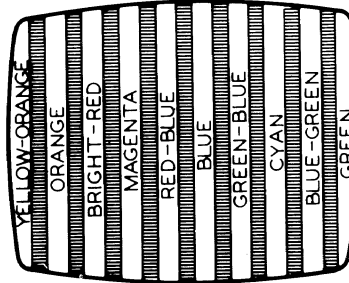

Figure 4
- () Change the program switches to "0001." The picture tube should display up to ten vertical color bars that may or may not have a color hue. Turn COLOR ADJUST trimmer C9 so the color bars are as indicated in Figure 4 on Page 43. (You may only see eight or nine color bars.) It may be necessary to readjust the television fine tuning, color level, or color killer to obtain color.
Program slide switches — These four switches are used to select the output signal. When a switch slide is moved toward the large trim label, it is in the "1" position. When the switch slide is moved toward the small Heathkit label, it is in the "0" position. The trim label illustrates the various signals that can be displayed on a television. Next to each illustration is the required switch program. **NOTE:** The illustrations on the trim label showing multiple patterns are only representative and do not show actual pattern density. The three color patterns are a rainbow (1111), three color bars (1100), and ten color bars (0001). Figure 4 illustrates the ten bar color sequence. You may not see all ten color bars on some television sets.